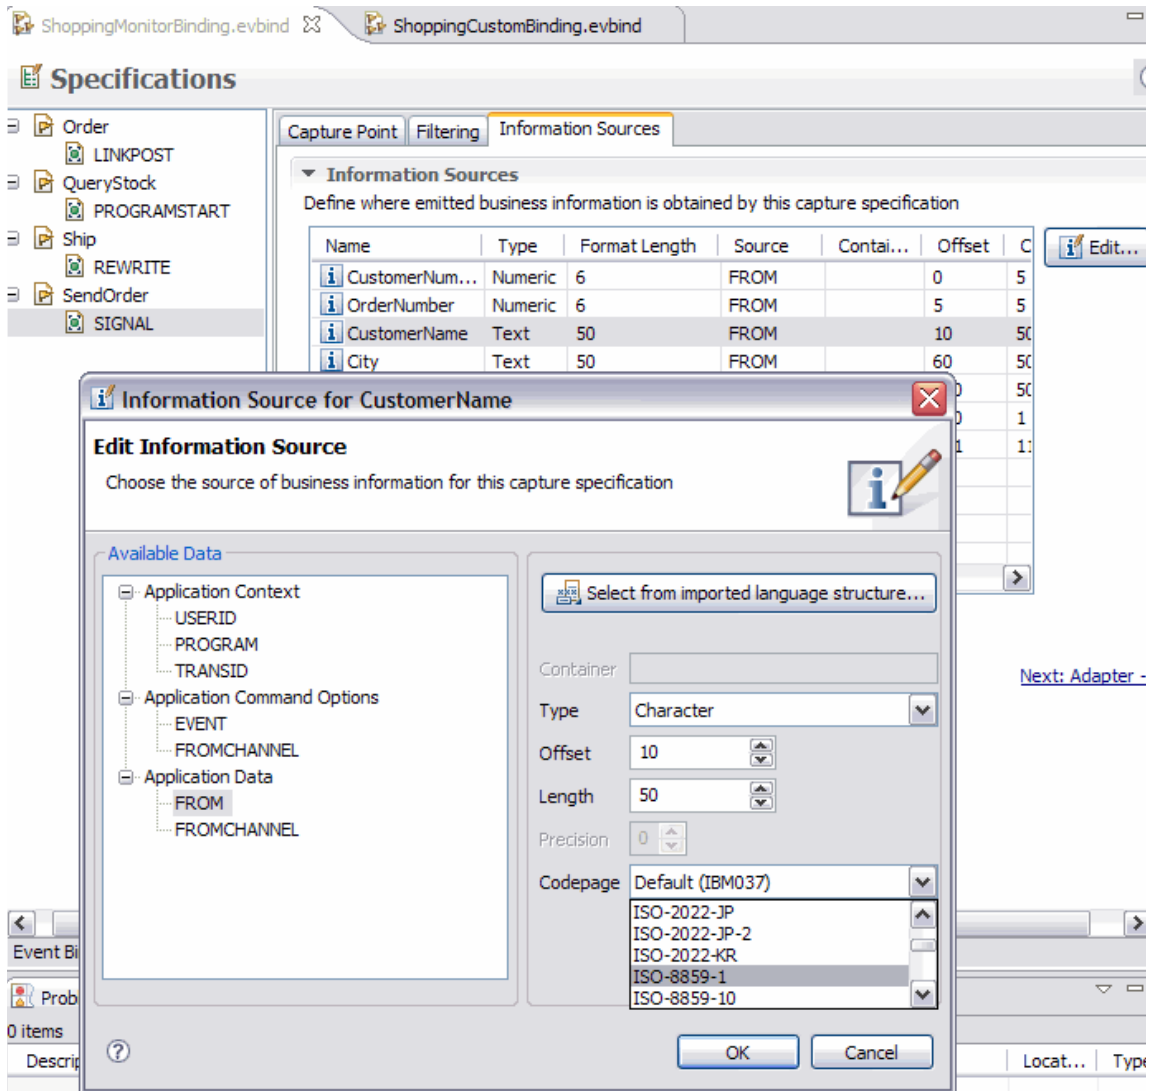

Figure 9-6 Overriding default codepage
CICS event processing assumes captured character data is in the same code page as that specified by the LOCALCCSID SIT parameter, unless you specify an alternate code page for the Information Source in the capture specification (see Figure 9-6 on page 319).
3. EPCUSTOM formats each data item as a named data item in the payload of a CBE event (see Figure 9-7 on page 320). The data names (for example CustomerNumber) are the Emitted Business Information field names (see Figure 9-6). The EP adapter gets the names from the DFHEP.DESRIPTOR container field epde-dataname.